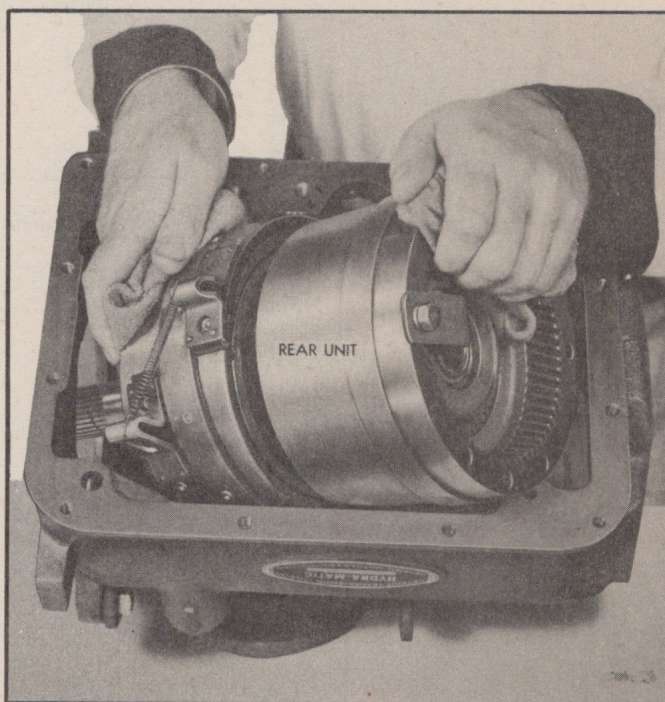

Fig. 131—Removing Units from Case
5. Lift both front and rear planet assemblies with band from transmission case (Fig. 131).